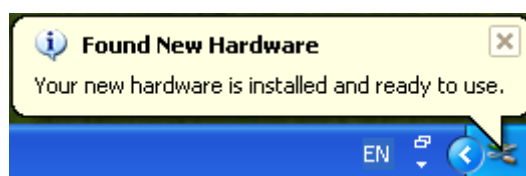

Figure 3-2 The ICPDAS USB series I/O modules are ready to use
3. Once you first time connect the USB I/O module to PC. There will be few messages in system bar in bottom right side to inform new hardware is detected and installed successfully. After the message is shown as figure 3-2, then the ICP DAS USB series I/O modules are ready to use.